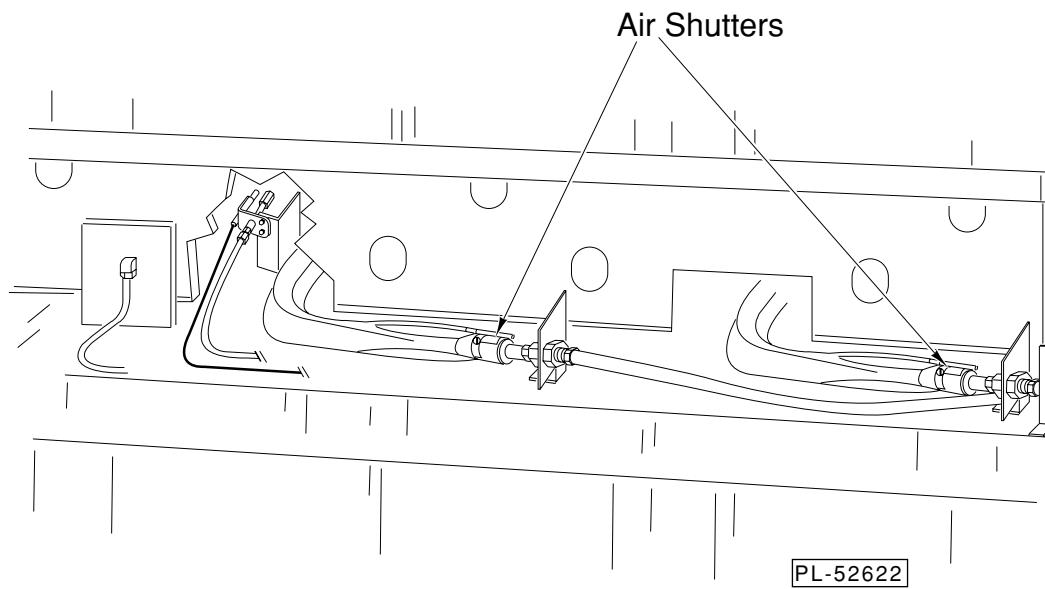

Fig. 6
3. Adjust the air shutters (Fig. 6) until the flame is sharp but not lifting off the burner.